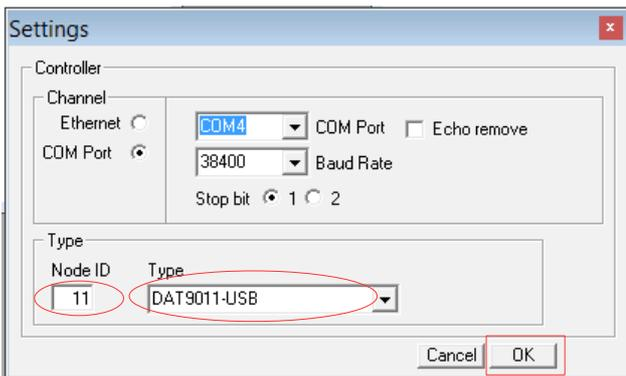

Fig 2.3: Write Node ID and Select Device Type
- In the field “Type” write Node ID of controller and select the right device from the list box (Fig. 2.3)
- Now, press “OK” to connect to the controller (Fig. 2.3 → Fig. 2.4)